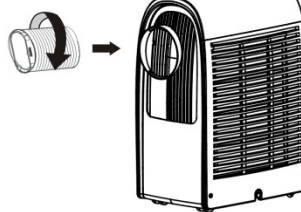

Fig.03
3. As shown in "Fig.03", attach the exhaust hose directly onto the heat clip connector.